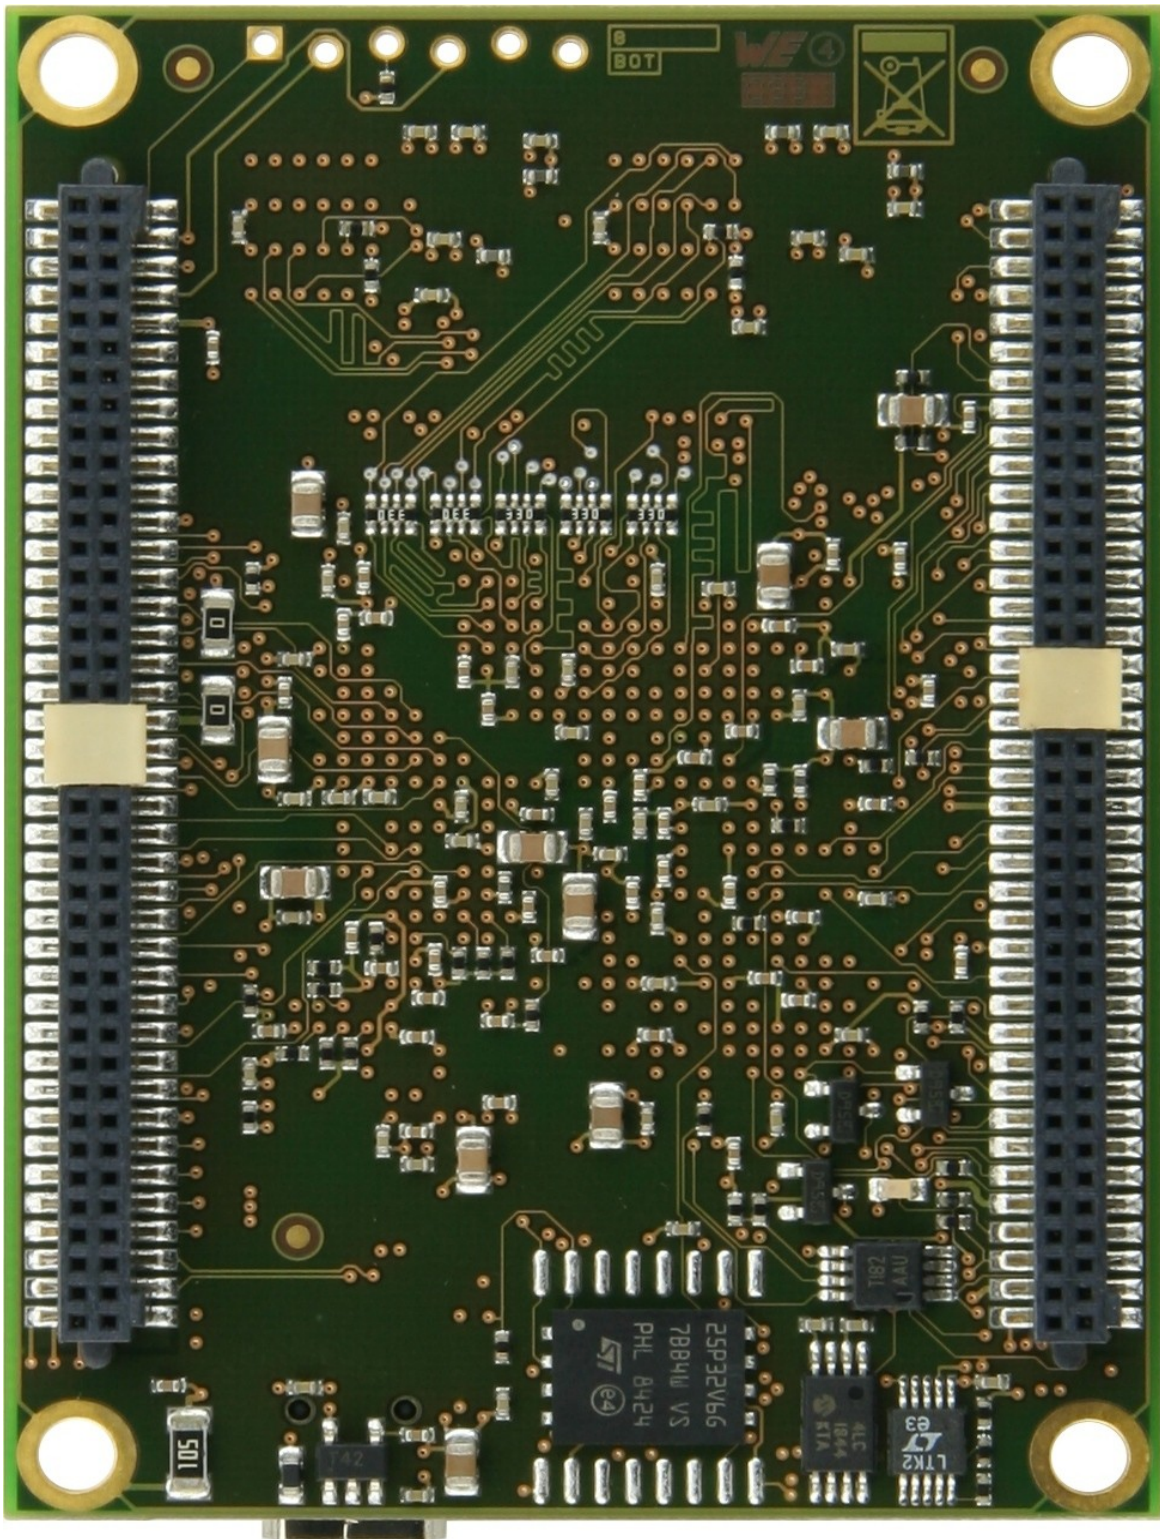

Figure 54: TE0320 high resolution bottom view.
- (b) Figure 54: TE0320 high resolution bottom view.